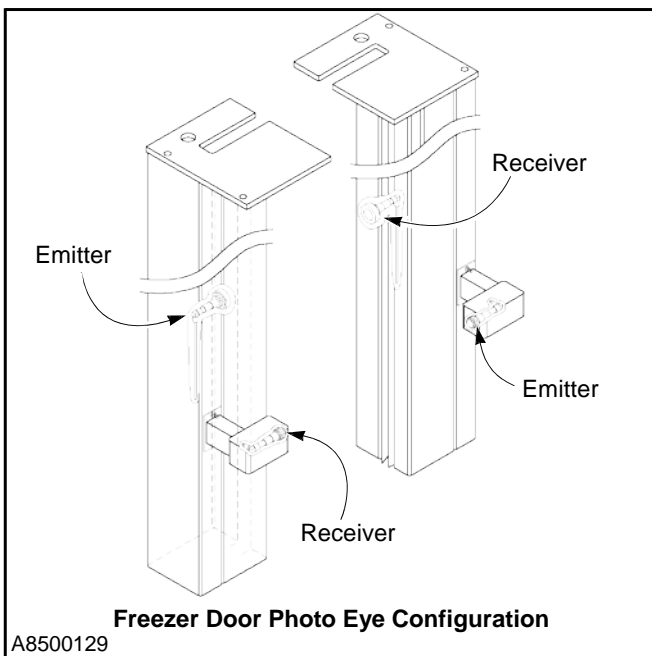

Figure 38
3. Locate the front set of photo eye modules. They are mounted in the heavy-duty mounting brackets located along the front of each side column. (The rear set of eyes is installed inside the columns.) (See Figure 38)